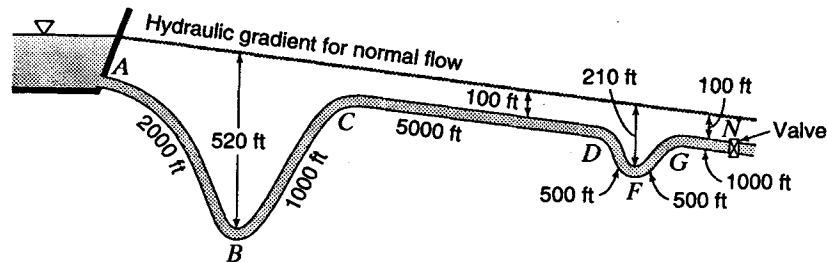

Figure P12.36
12.36 In Fig. P12.36 the total length of pipe is 10,000 ft, its diameter is 42 in, and its wall thickness is 0.89 in. Assume $E = 32,000,000$ psi and $E_v = 300,000$ psi. If the initial velocity for steady flow is 8 fps and the valve at G is partially closed so as to reduce the flow to half of the initial velocity in 3.6 sec, find (a) the maximum pressure rise due to the water hammer; (b) the location of the point of maximum total pressure.